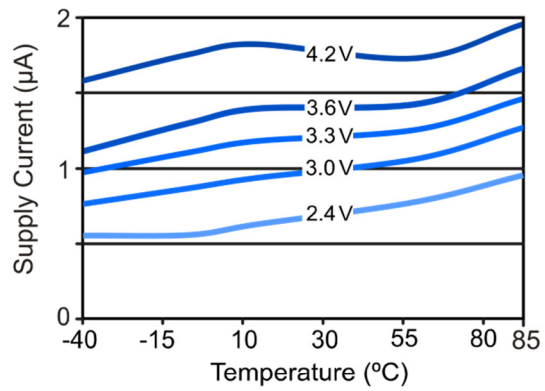

Figure 4. Supply Current versus temperature for VDD between 2.4 V and 4.2 V
- 2) Value at 25°C, see Figure 4 for I_{DDQ} temperature dependence